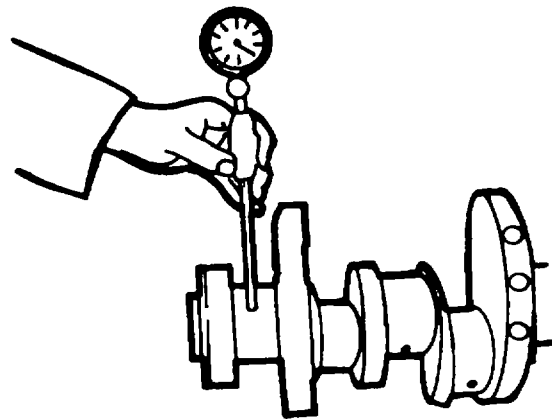

Figure 5-63. Measuring Width of Locating Bearing Journal of Crankshaft
9. Measure width of locating bearing journal of the crankshaft (figure 5-63).